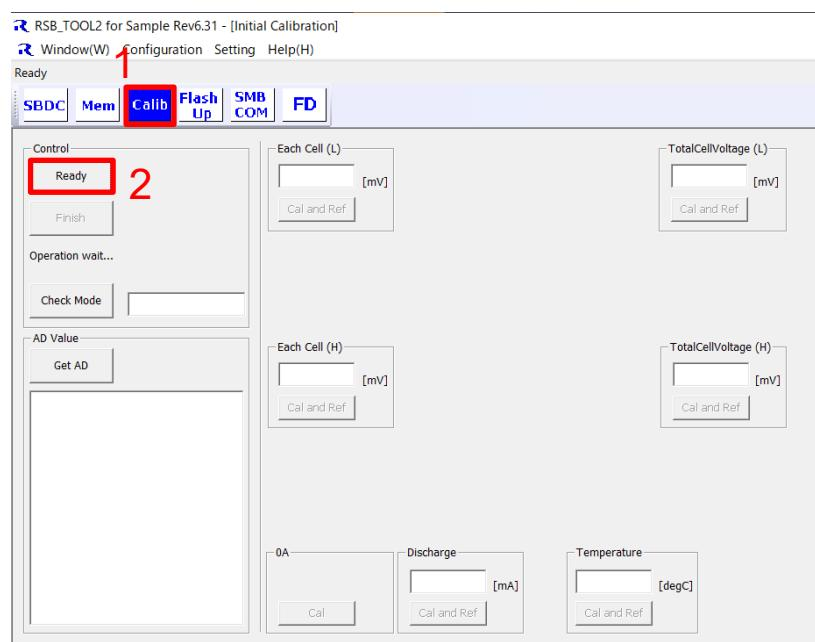
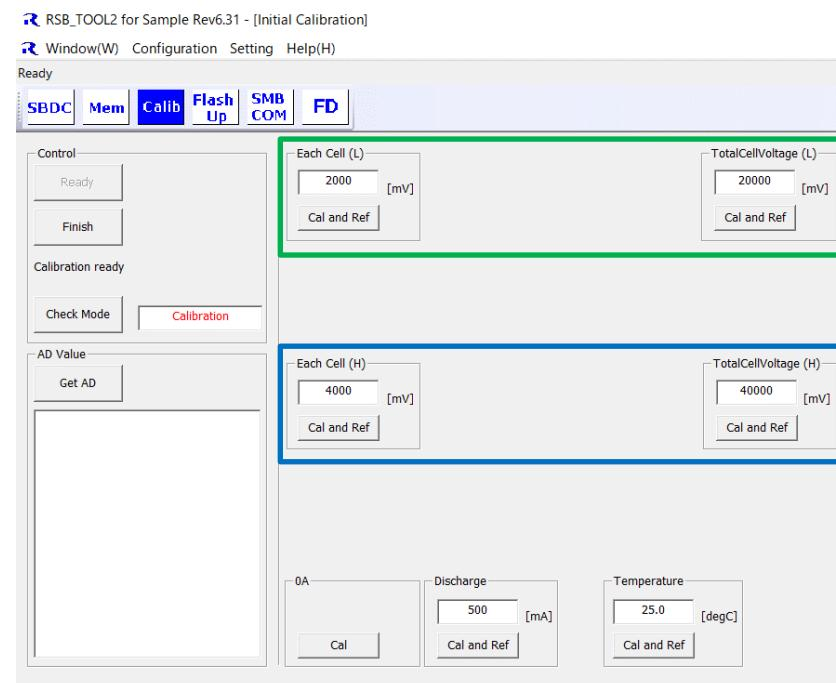

Figure 24 Initial calibration window
Figure 25 Two-point calibration ready
1. Click [**Calib**] button on RSB TOOL2. (Figure 24)
- a. Cell all (L) : 2000 [mV]
- b. PackCellVoltage (L) : 20000 [mV]
- c. Cell all (H) : 4000 [mV]
- d. PackCellVoltage (H) : 40000 [mV]
4. Apply 20V between V+ and V- using PS #1. After that, click **Cal and Ref** button in green-highlighted area as seen in Figure 25.
6. Apply **40V** between V+ and V- using PS #1. Then, click “**Cal and Ref**” button in blue-highlighted area as seen in Figure 25.